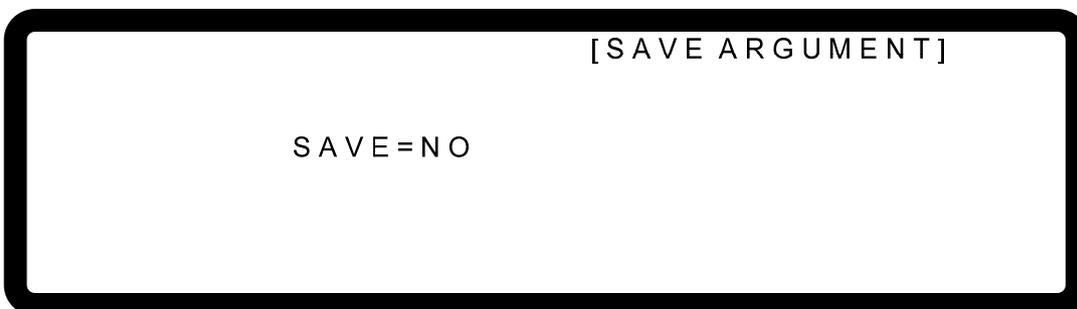

Figure 3-102
- The current calibration is done once the above actions are completed. To save the calibration data, press " " will prompt a confirmation page as Figure 3-102 shows. Press " " or "Rotary" () to set SAVE=YES and press " " to save it. If there is no need to save it, press " " to return to the Calibration screen.